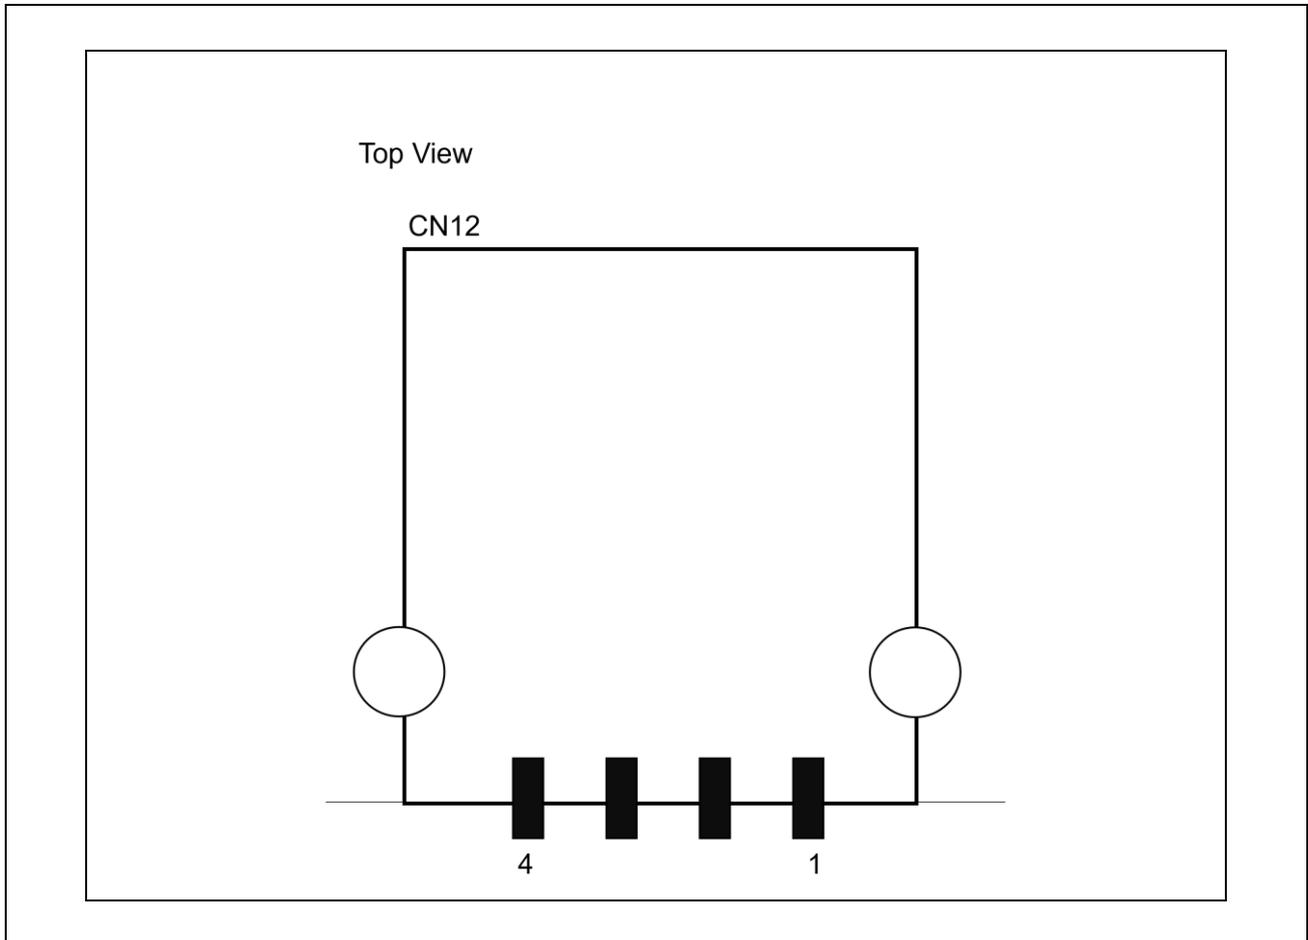

Figure 3.10 USB Type-A Receptacle (CN12) Pin Layout Diagram
**Figure 3.10** illustrates the layout of USB Type-A Receptacle pins. **Table 3.12** shows the assignment of USB Type-A Receptacle pins.